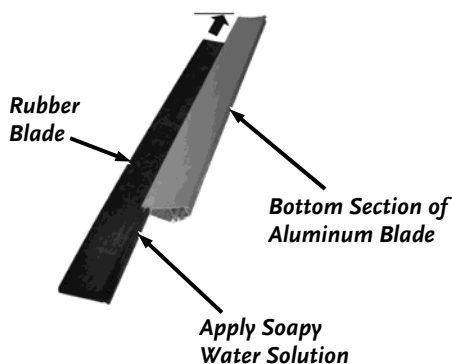

Figure 8
- Apply soapy water solution to channel areas of the Rubber Blade and bottom section of Aluminum Blade where they will mate together (**Figure 8**).